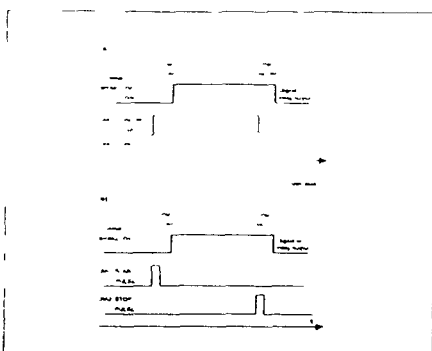

Figure 6-5-11 External brake control a) Start/Stop logic selection par. 2 1 0 1 or 2
- The function of the external brake can be delayed from the start and stop control signals with these parameters See figure 6-5-11